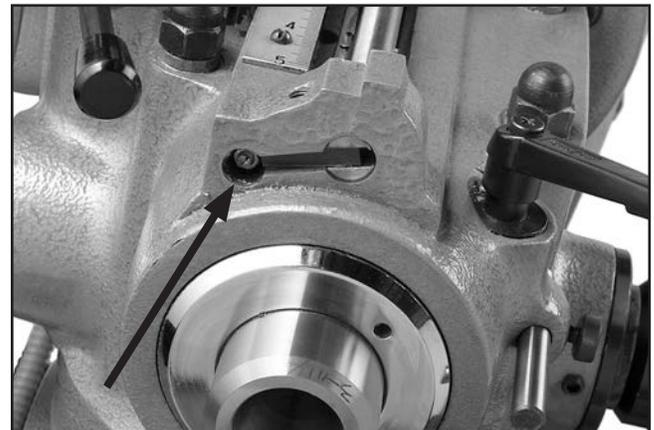

Figure 72. Downfeed clutch lever adjusting screw and locknut.
- Loosen the locknut shown in **Figure 72**.